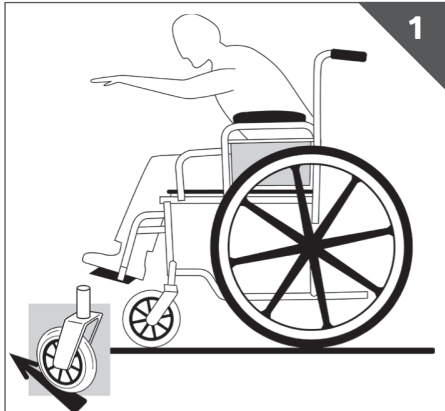

Figure 1
- When reaching forward make sure the front casters are pointing in a forward position (Fig. 1). This extends the wheel base and will help stabilize the chair.